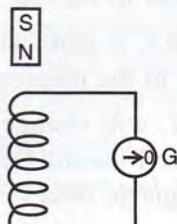

Fig. 10.38
- 1. Fig. 10.38 shows a coil AB connected to a centre zero galvanometer G and a magnet NS.**